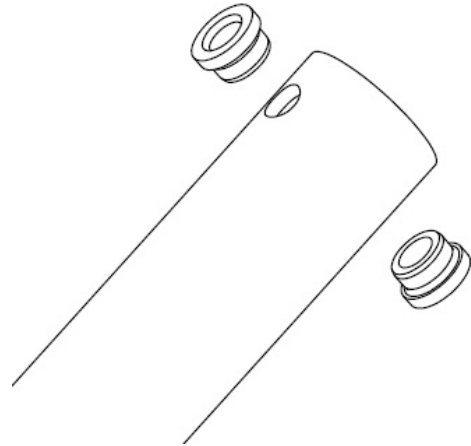

FIGURE 4
6. Insert an IPPC105 bronze flanged bushing into each side of the hole in the extension pipe on the end at the wall board. See Figure 4. Attach an extension pipe to each pivot bracket. You may need to support the extension pipes until step #8 is completed.